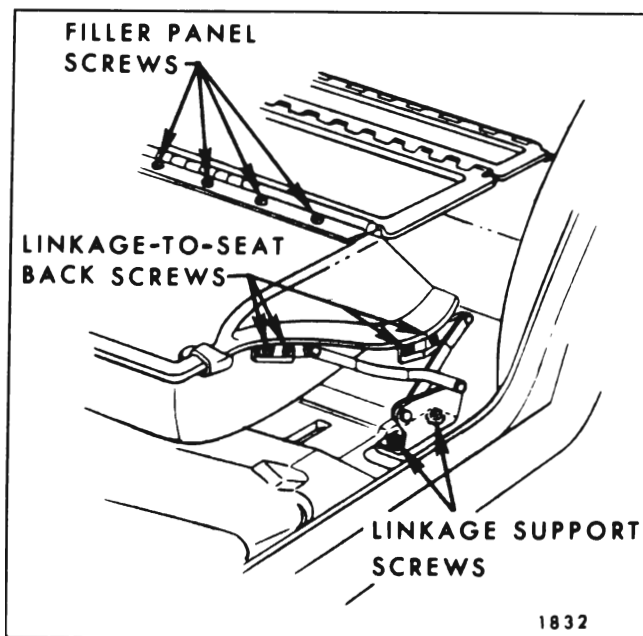
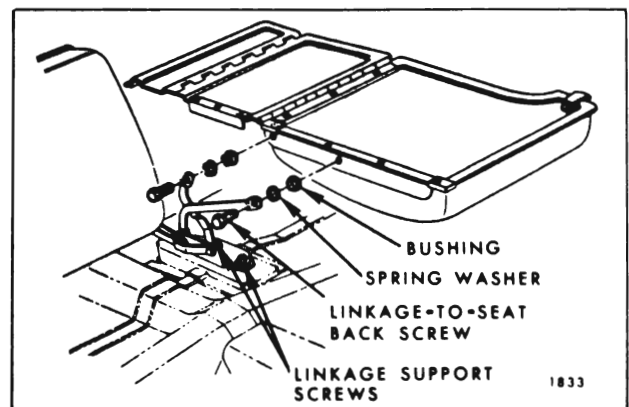

Fig. 15-63—Folding Second Seat Back Linkage and Filler Panel
Fig. 15-64—Split Second Seat Center Linkage
2. On both sides of seat back, remove screws securing seat back to folding linkage (Fig. 15-63) and remove seat back and panel assembly from body. See Fig. 15-64 for center linkage attachments on split second seat.